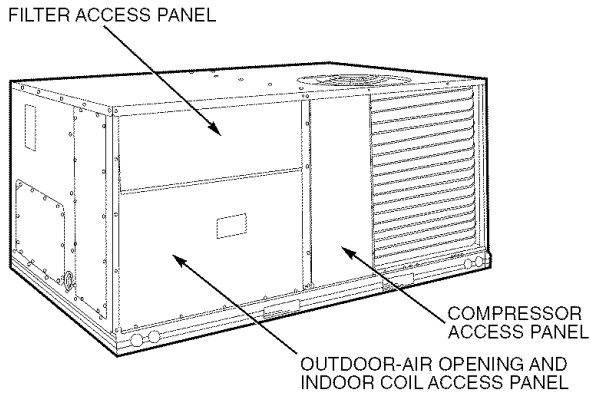

Fig. 23 — Typical Access Panel Locations
1. To remove the existing unit filter access panel, raise the panel and swing the bottom outward. The panel is now disengaged from the track and can be removed. See Fig. 23.